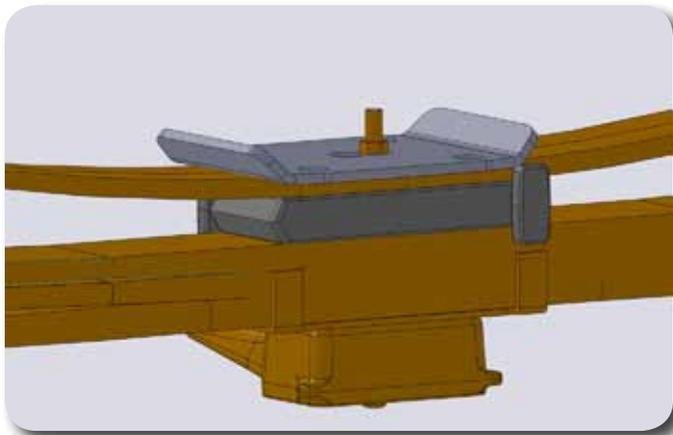

Figure 20
8. Models equipped with overload leaves will need the separation block modified. Trim the rotation tabs from the front side of block on both the inside and outside of the block. Use extreme care near the fuel tank, do not use any method that will create sparks if the block is not removed when modified. A sawzall is highly recommended. **Figure 20**